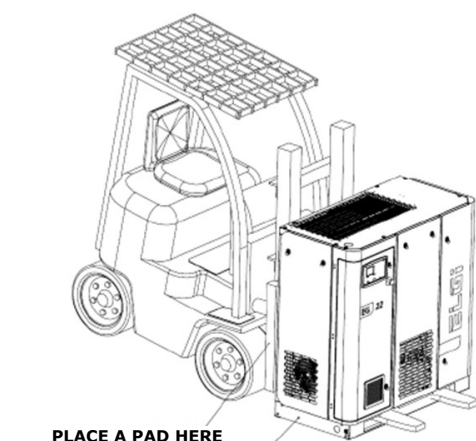
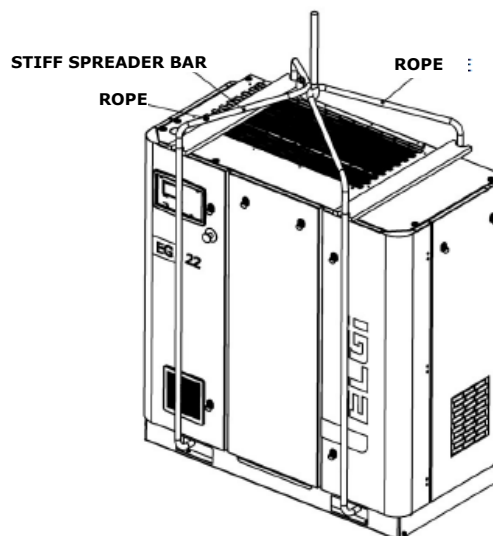

Figure 2. Lifting using forklift
Figure 3. Lifting using crane
1. Lift compressors using either a forklift/pallet truck (Fig.2) or a crane (Fig.3).
2. When using a forklift, ensure padding is used in between the compressor and forklift (as shown in Fig.2) to prevent damage to the compressor's canopy.
3. When using a crane, please ensure stiff spreader bars are used (as shown in Fig.3) to prevent rope slings from damaging the compressor's canopy.